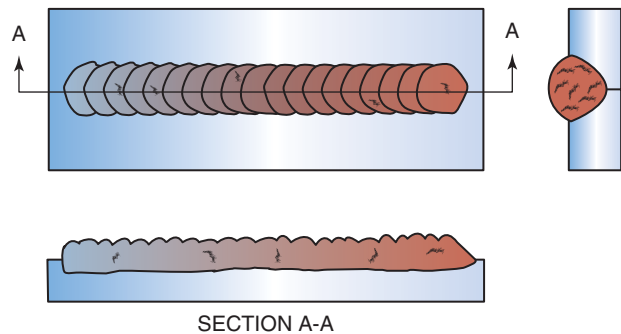

Figure 9.4 Piping or wormhole porosity
- Piping, or wormhole, porosity is most often caused by contamination at the root, Figure 9.4. This type of porosity forms when the gas escapes from the weld pool at the same rate as the pool is solidifying.